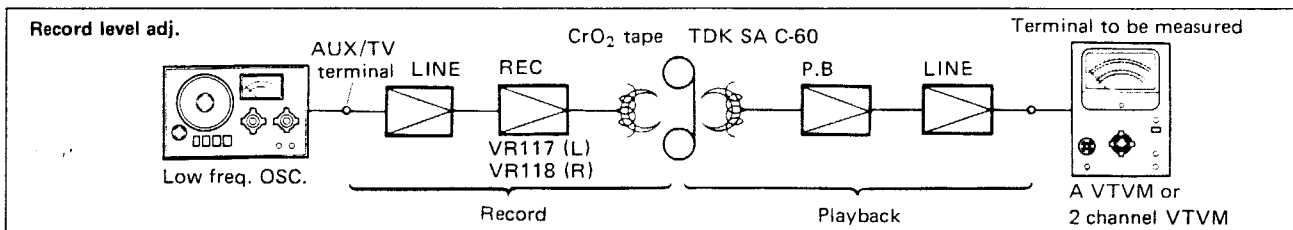

Fig. 9
(2) Record level adjustment (Refer to Fig. 9)